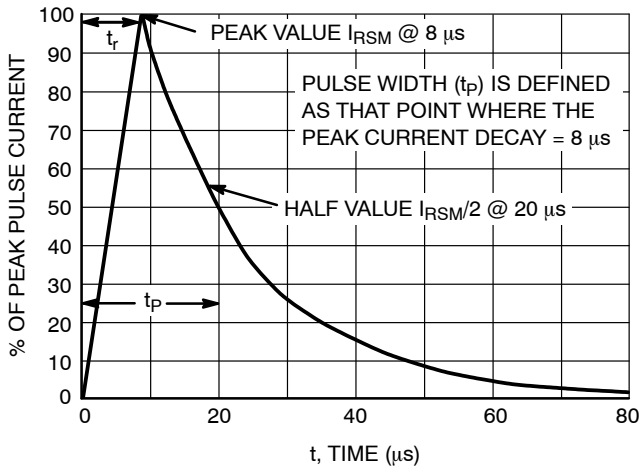

Figure 3. 8 x 20 μs Pulse Waveform
- Non-repetitive current pulse per Figure 3
- 8 x 20 μ s pulse waveform per Figure 3